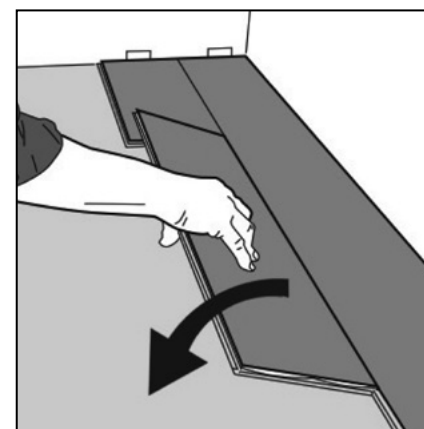

Figure 27 Second plank, second row
- > Gently place the plank close to the short end of the previous one (fig. 27) and fold it down in a single action movement ensuring the corner of the long and short sides connect into the corresponding profiles of the short edge of the first plank second row; and the long edge lower profile of the corresponding plank in the previous row respectively.